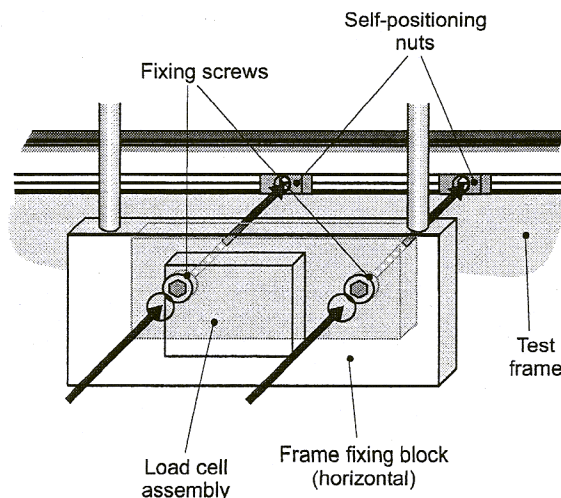
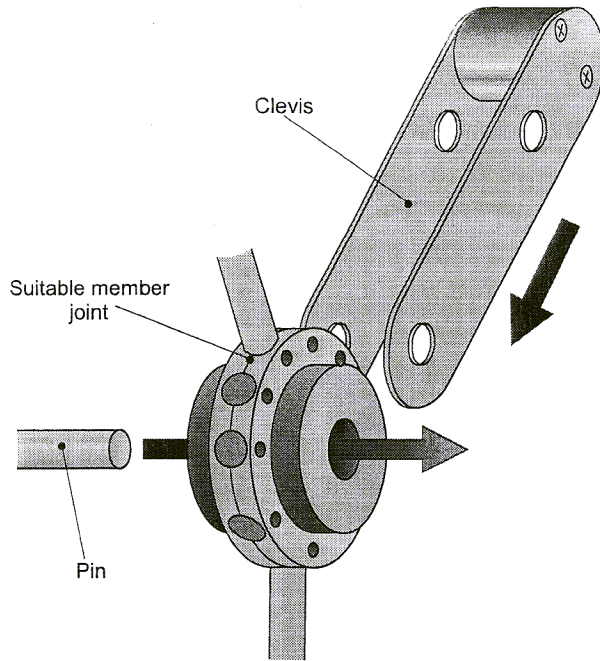

Figure A2 Fixing the load cell to the test frame
Figure A3 Typical fitting of the clevis to an experiment
Figure A2 and Figure A3 show the load cell mountings. One end fits to the Test frame by means of two 6 mm A/F Allen screws. The other end fits onto a suitable mounting by means of a connecting pin.
1. Ensure that the frame mounting block is horizontal, to allow access to the fixing screws, locate the screws into the self positioning nuts (Figure A2).
3. Position the clevis as desired and then connect using a pin (Figure A3).